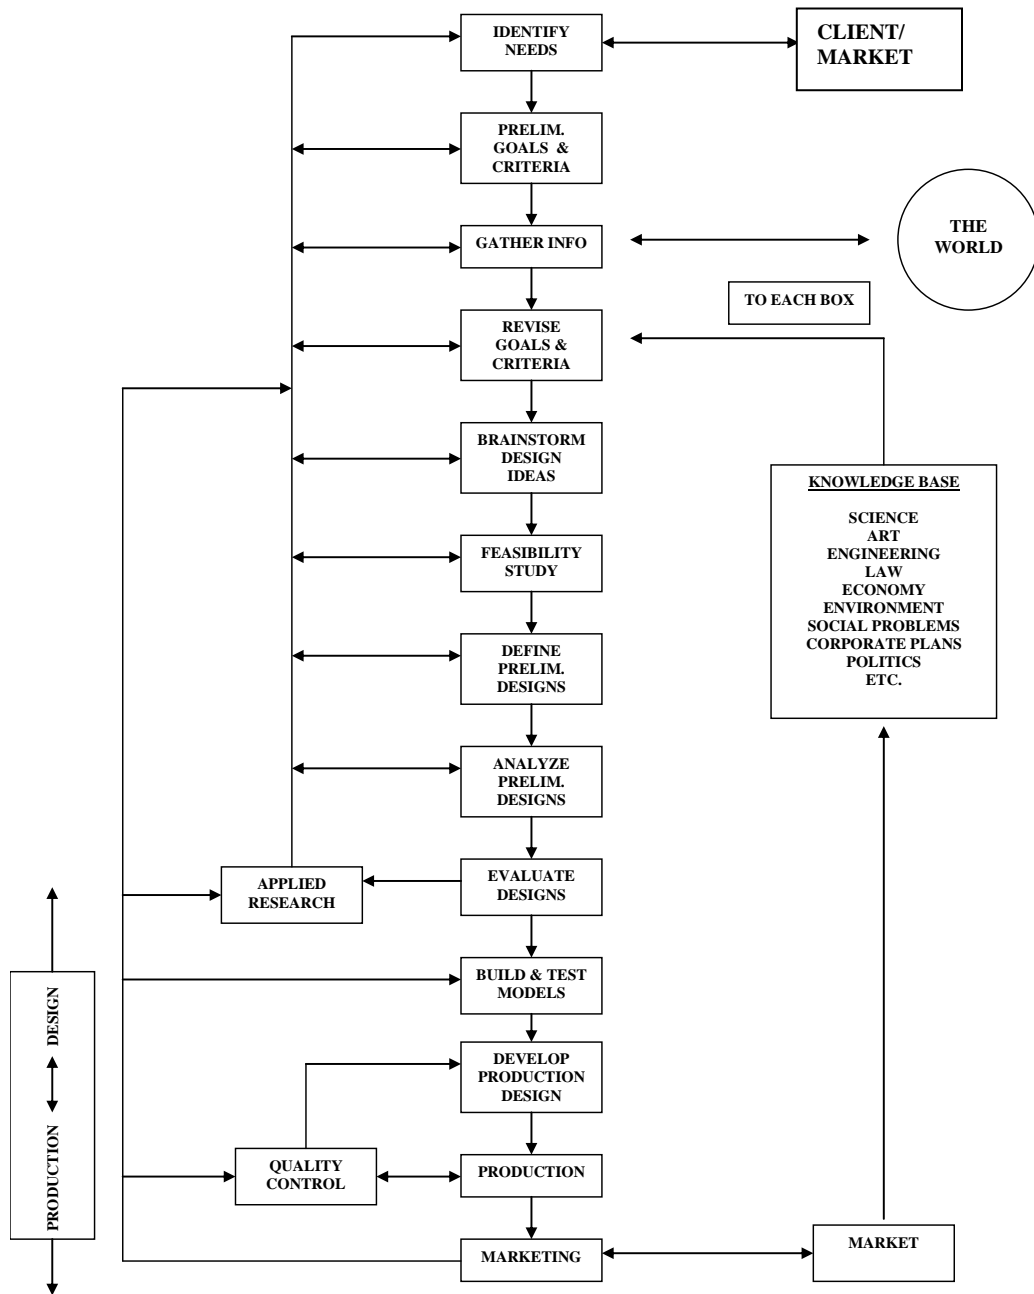

Figure 1. Flow chart of a typical engineering design process
**Engineering Design:** Engineering design is the process of devising a system, component, or process to meet desired needs. The flow chart shown in Figure 1 shows one of many possible ways of viewing the elements involved. It is an iterative decision process in which the basic sciences, mathematics, and engineering sciences are applied to convert resources optimally to meet a stated objective.